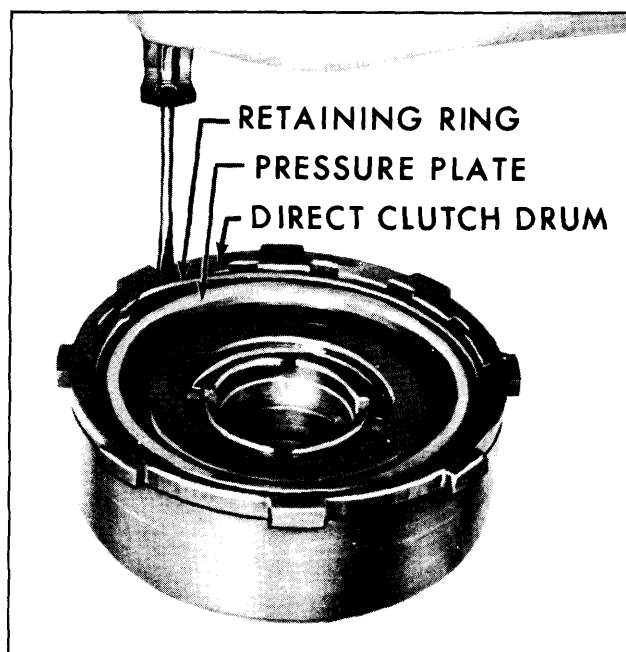

Fig. 7-70—Removing Direct Clutch Pressure Plate
1. Remove direct clutch pressure plate to clutch drum retaining ring and pressure plate. (Fig. 7-70)